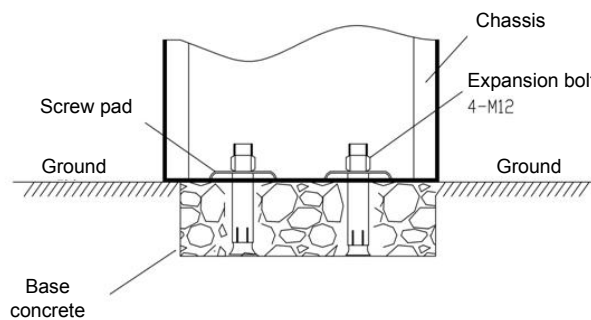

Figure 2-2
- 4) Install screw pads and use a wrench to tighten nuts, as shown in figure 2-2.